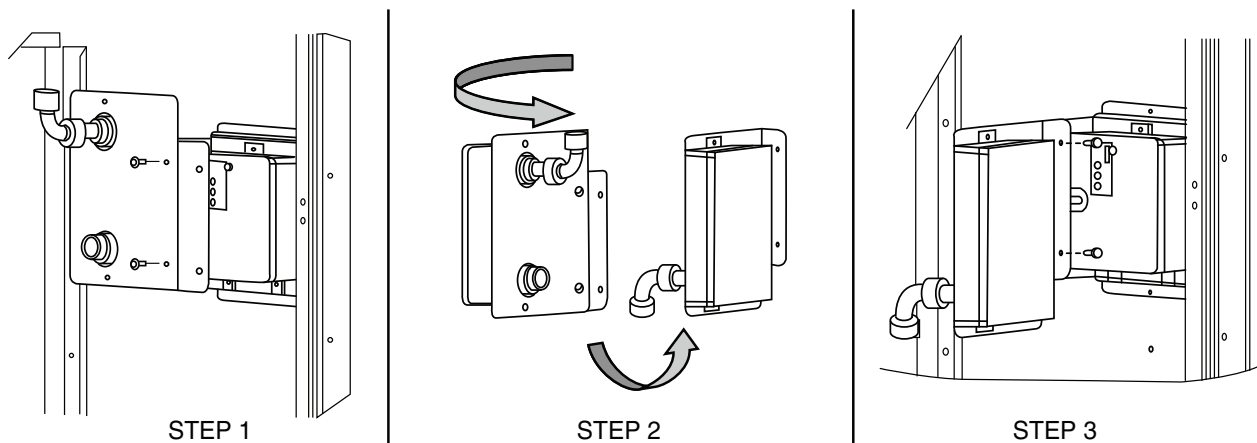

Fig. 51 — Completing Installation of Return Air Smoke Sensor
1. Unscrew the two screws holding the return-air smoke detector assembly. See Fig. 51, Step 1. Save the screws.
2. Turn the assembly 90 degrees and then rotate end to end. Make sure that the elbow fitting is pointing down. See Fig. 51, Step 2.
3. Screw the sensor and detector plate into its operating position using screws from Step 1. See Fig. 51, Step 3.